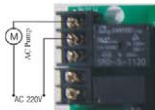
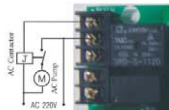

Figure 3-7 Wiring of Booster Pump on Inlet
Figure 3-8 Wiring of Booster Pump on Inlet
**Instruction:** If inlet water pressure is less than 0.15MPa, which makes backwash or brine difficult, a booster pump is suggested to be installed on inlet. Control mode b-01. When system in regeneration cycle, booster pump is open, the wiring refer to Figure 3-7. If the booster pump current is bigger than 5A, system need to install a contactor, the wiring refer to Figure 3-8